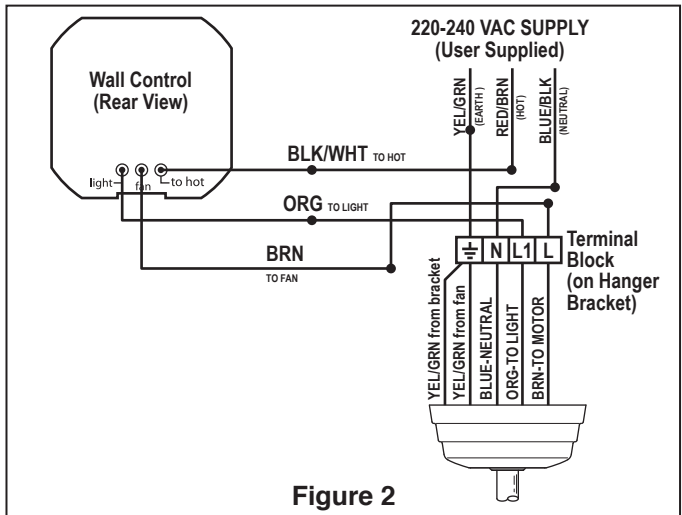

Figure 2
The fan must be hung with at least 2.3M of clearance from floor to blades. (Figure 2)
1. Installing Wall Control (Figure 2):
- Make wiring connections to terminal block as shown in Figure 2.
2. Securely attach and tighten the canopy screw cover over the shoulder screws in the hanger bracket utilizing the keyslot twist-lock feature. (Figure 2)
2. Position the trim cover onto the blade plate assembly bottom. (Figure 2)